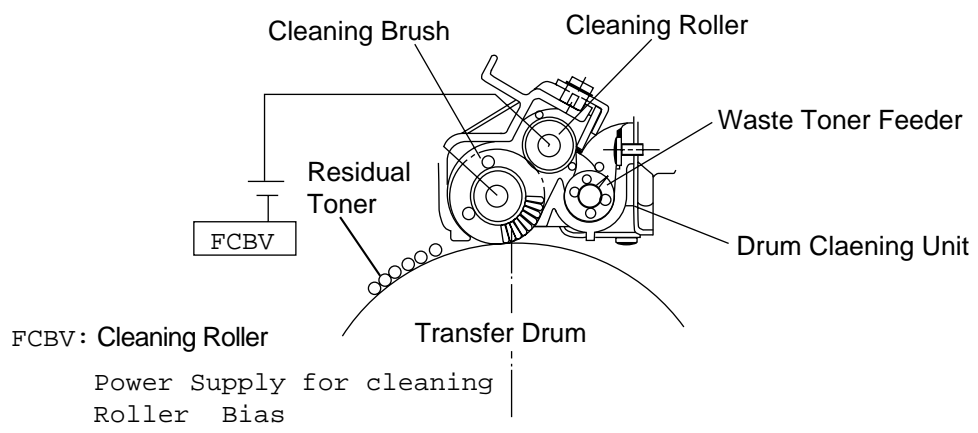

Fig.4-22
(1). Structure of Drum Cleaning(Fig.4-22)
- ②. Drum cleaning brush is a semiconductor type fur brush to clean the surface of transfer drum as rotating. However, the cleaning brush stays away from the transfer drum while imaging on the transfer drum.
- ③. Drum cleaning roller is positively biased by the positive voltage FCBV(V).
- ④. FCBV(V) is injected to the cleaning brush as well, and the cleaning brush is self-biased by the resistance of brush.
- ⑤. Drum cleaning roller rotates as contacting to the drum cleaning brush.
(2). Process of Belt Cleaning (Fig.4-22)
- ①. There is the residual toner on the surface of transfer drum after the paper transfer process.
- ②. Drum cleaning brush is positively self-biased. Drum cleaning brush has the negatively charged residual toner fall off from the surface of transfer drum, and electrically absorbs the residual toner into the drum cleaning brush.
- ③. Drum cleaning roller has been biased to the positive FCBV(V), the residual toner absorbed into the drum cleaning brush is attracted by the positive FCBV(V) is adhered to the surface of drum cleaning roller.
- ④. Waste toner adhering to the surface of drum cleaning roller is scavenged by the cleaning blade and collected to the waste toner pack by the waste toner feeder.